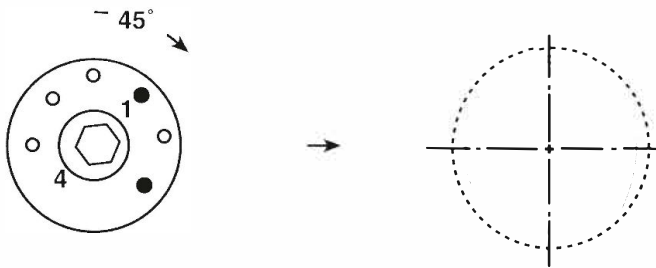

Fig. 6. ○ - vacant Hole ● - screwed Hole
1. To complete an octagon, two further pairs of mounting holes in the end of the workpiece are required. (Fig. 6 & Fig. 7)